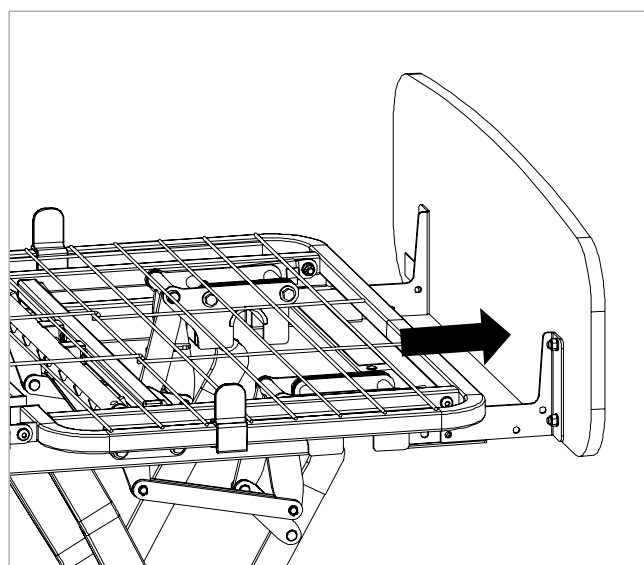
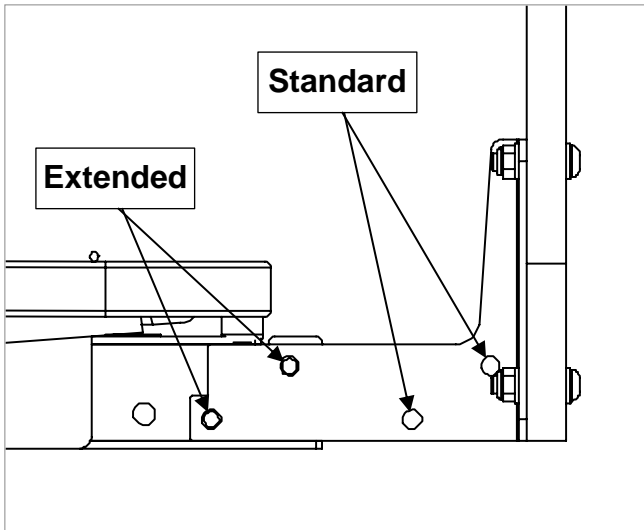

Figure 12.2
Figure 12.3
2. Slide the footboard outwards as Figure 12.2 until the holes in the footboard bracket marked 'Extended' in Figure 12.3 line up with the mounting holes on the bed frame.